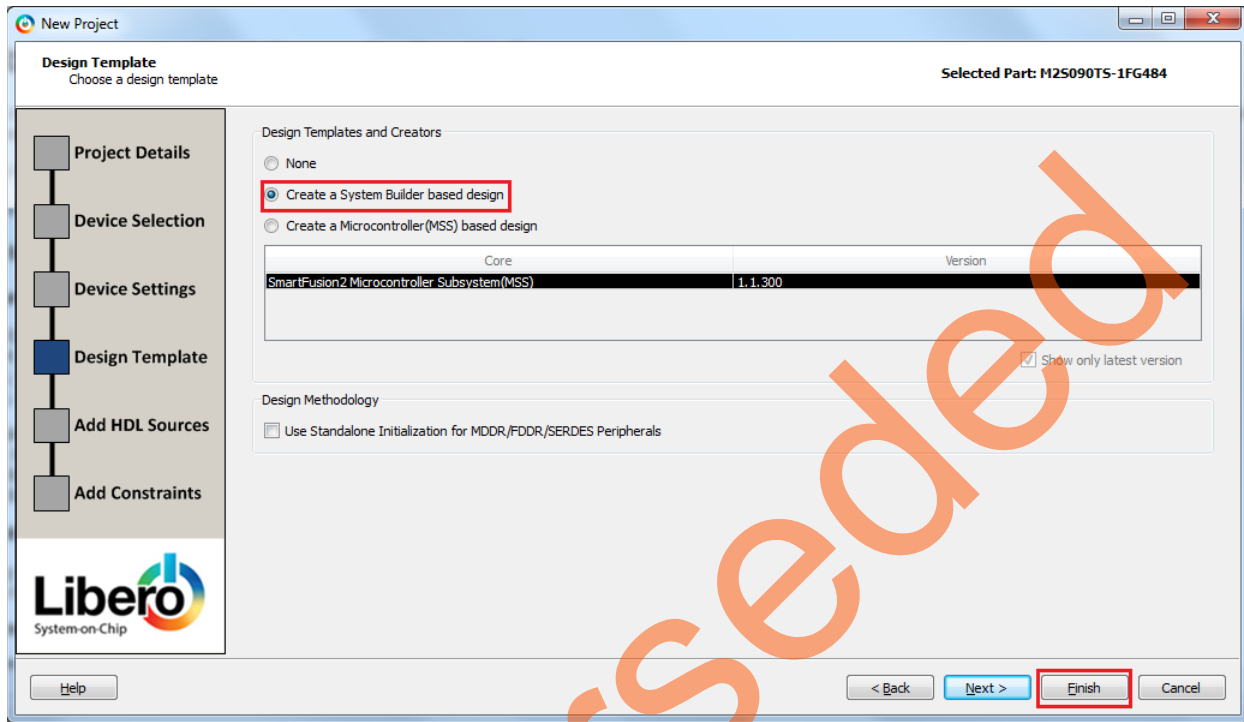

Figure 5 • Device Template Page
6. Click **Next**. This opens **Design Template** page as shown in Figure 5, Under Design Templates and Creators, select **Create a System Builder based design**.